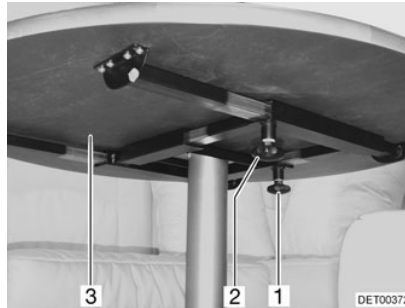

Fig. 29 Fixed table
- Undo the knurled screw (Fig. 29,2).
- Move the table-top (Fig. 29,3) to the desired position.
- Undo the knurled screw (Fig. 29,1).